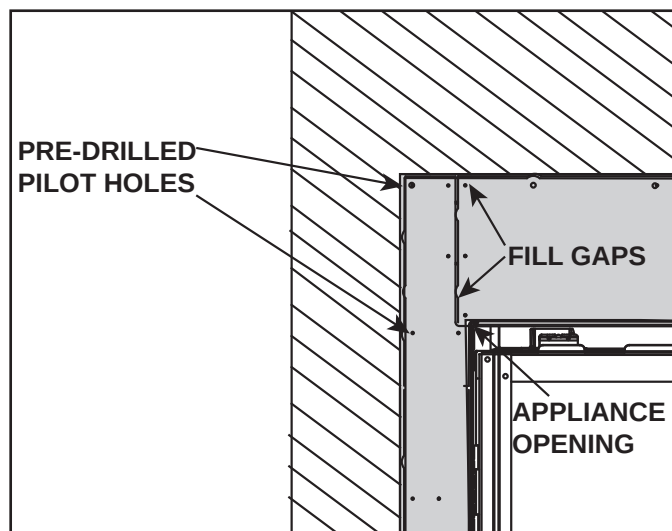
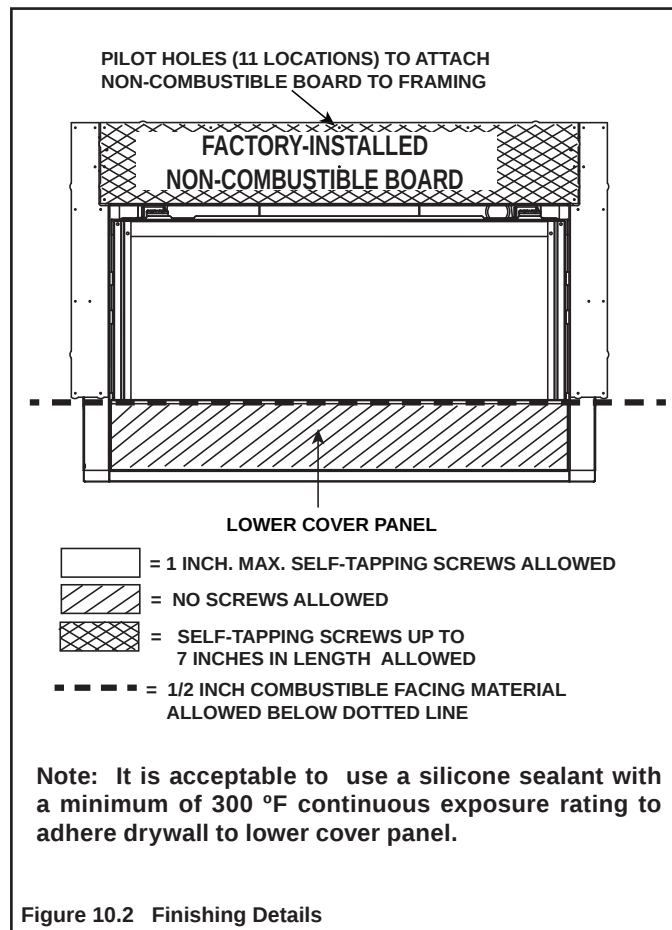

Figure 10.1 Install Non-Combustible Board
Figure 10.2 Finishing Details
- Metal front of appliance may be covered with non-combustible materials only, excluding lower cover panel. See Figure 10.2.
- Seal gaps between the finished wall and appliance top and sides using a 300 °F minimum sealant. Refer to Figure 10.1 and Figure 10.2.
The factory-supplied non-combustible board must be used in all installations. It must be directly attached to structural framing adjacent to the appliance. Screw fasteners should be installed in the pilot holes provided in the outer perimeter of the non-combustible board. See Figure 10.1 and Figure 10.2.
2. The appliance ships with the required non-combustible board. The large top piece of non-combustible board is pre-installed at the factory. The narrow left and right non-combustible pieces are shipped within the appliance. Install the non-combustible side pieces with the screws provided in the manual bag assembly. There are pilot holes located on the left and right side columns. Care should be taken not to tighten these screws into the non-combustible board excessively. Set screws flush to the face of the non-combustible board. See Figure 10.2 and Section 6.D.
3. The outer perimeter of the factory-installed non-combustible board has pre-drilled pilot holes. See Figure 10.1. Secure the non-combustible board to adjacent framing with drywall screws that are a minimum of 1-1/4 inch in length. Care should be taken not to tighten these screws into the non-combustible board excessively. Set screws flush to the face of the non-combustible board. See Figure 10.2 and Section 6.D.
4. When installing drywall around the appliance, install a rectangular hole for the fireplace/non-combustible board in a single sheet of drywall. This will minimize the joints that require finishing adjacent to the fireplace opening. Ensure that the 1/8 inch gap is maintained between the factory installed non-combustible board and the surrounding drywall. See Figure 10.1. Secure the drywall to the framing with screws a minimum of one inch in length every six inches across the top of the fireplace and every ten inches on the sides of the fireplace.
1. **Step 1:** Fill all gaps and joints between the non-combustible board pieces and the drywall with a general purpose chemically setting joint compound such as Durabond® 45 Joint Compound manufactured by USG (Sheetrock® brand), recommended by Hearth & Home Technologies. Use a drywall knife to firmly press the joint compound into all gaps. See Figure 10.1. Allow these joints to dry.
It is acceptable to pre-drill holes and use self-tapping screws in the installed non-combustible board to attach non-combustible backer board for tile, marble, etc. Refer to Figure 10.2 for acceptable screw or metal lath location and screw length requirements.
Do not drill or install screws which may penetrate the lower cover panel as this will restrict required access to the glass, battery-backup, and control module. See Figure 10.2.